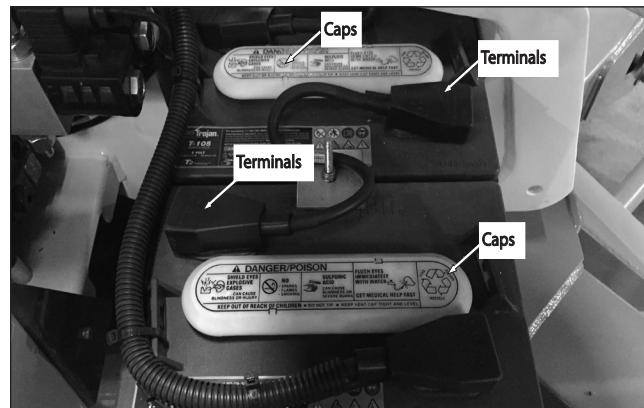

Figure 8.2 – Battery tray
1. Check the top of the battery, the terminals and cable ends (refer to Figure 8.2). They should be clean and free of corrosion.
1. Remove the caps from the batteries (refer to Figure 8.2).